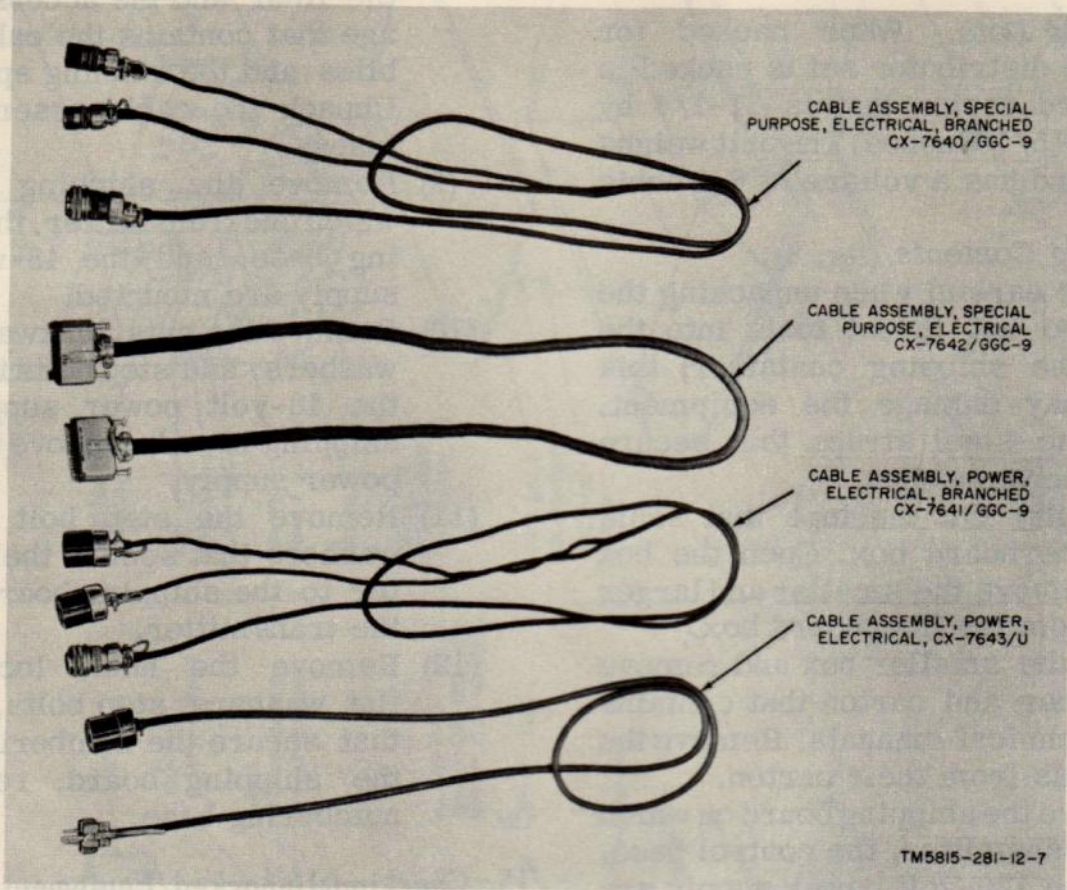

Figure 7. Cable assemblies.
13. Description of Cable Assemblies (fig. 7)